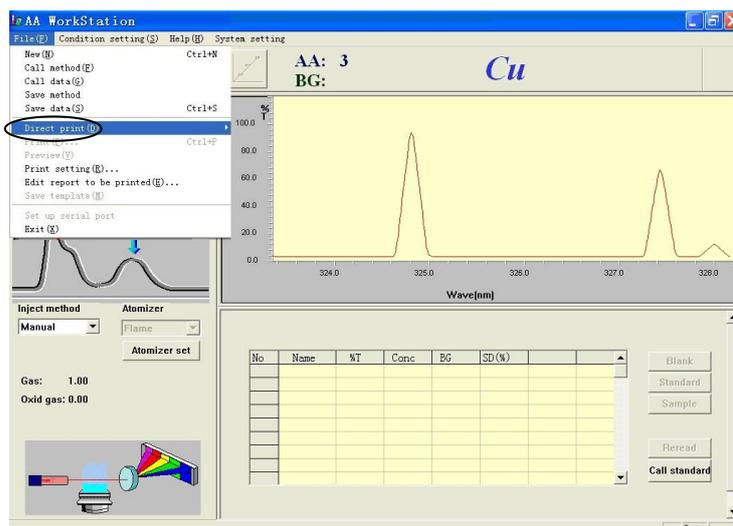

Figure 9-9
9. Print: Select "Directly printing" in the "File" menu, as shown in Figure 9-9. If "Spectrum" is selected, the spectrum will be printed. Otherwise, the spectrum and data will be printed.